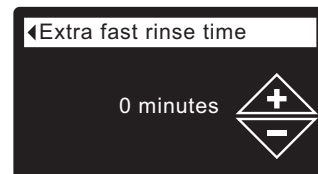

FIG. 87
- 8d. **Extra fast rinse time:** The fast rinse time during regeneration is determined by the electronic controller. However, if you experience salty tasting water after regeneration, you may want to increase it. Press the UP (▲) button to add minutes, up to 15, of extra fast rinse time (See Figure 87).